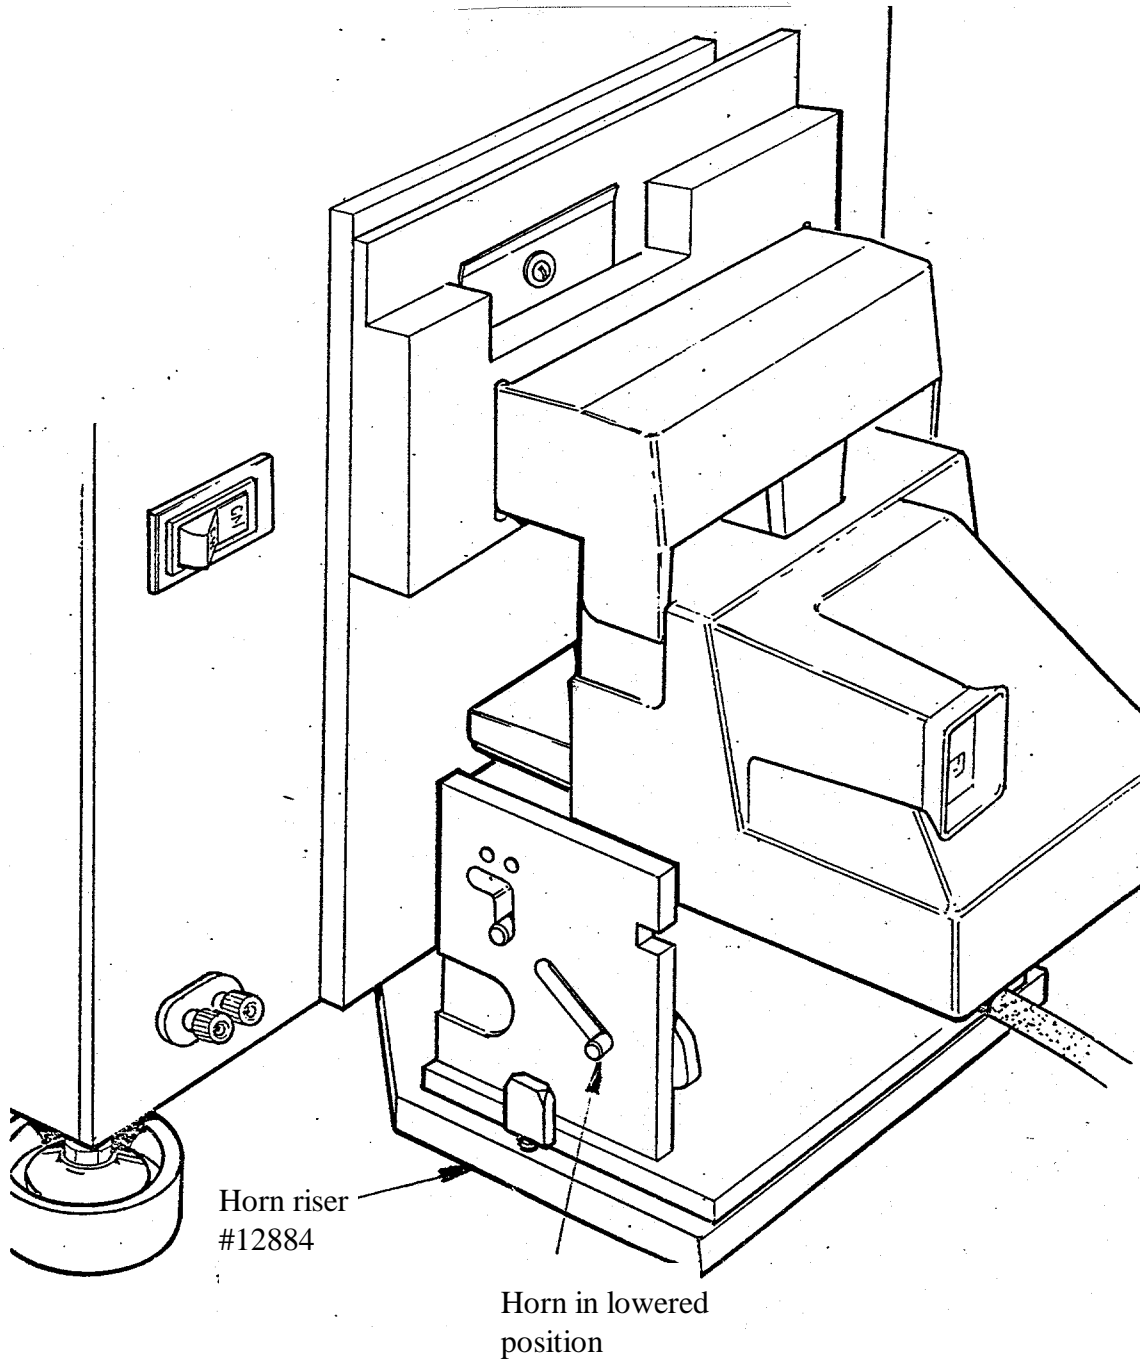

Fig. 5 Test setup and Horn Riser position for Model 636
6. Place horn riser #12884 under the star tester horn (see Fig. 5).
7. Set the horn in the lowered position (Fig. 5).